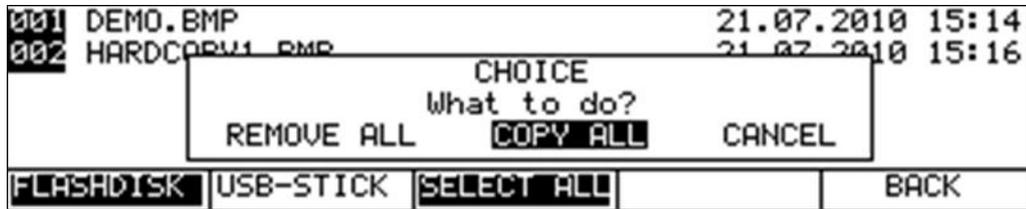

Figure 10-5 Copy of .BMP files in the FLASHDISK directory
- Figure 10-5 Copy of .BMP files in the FLASHDISK directory 58